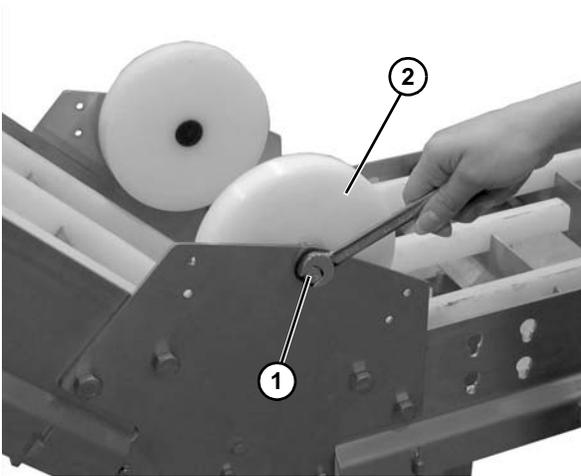

Figure 65
3. Remove the cap screw (**Figure 65, item 1**) and the hold down roller (**Figure 65, item 2**). Repeat on opposite side of the conveyor.